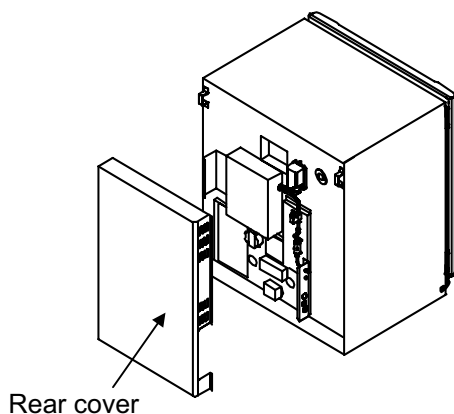

Fig. 2
3. Take the rear cover off as shown in Fig. 2.